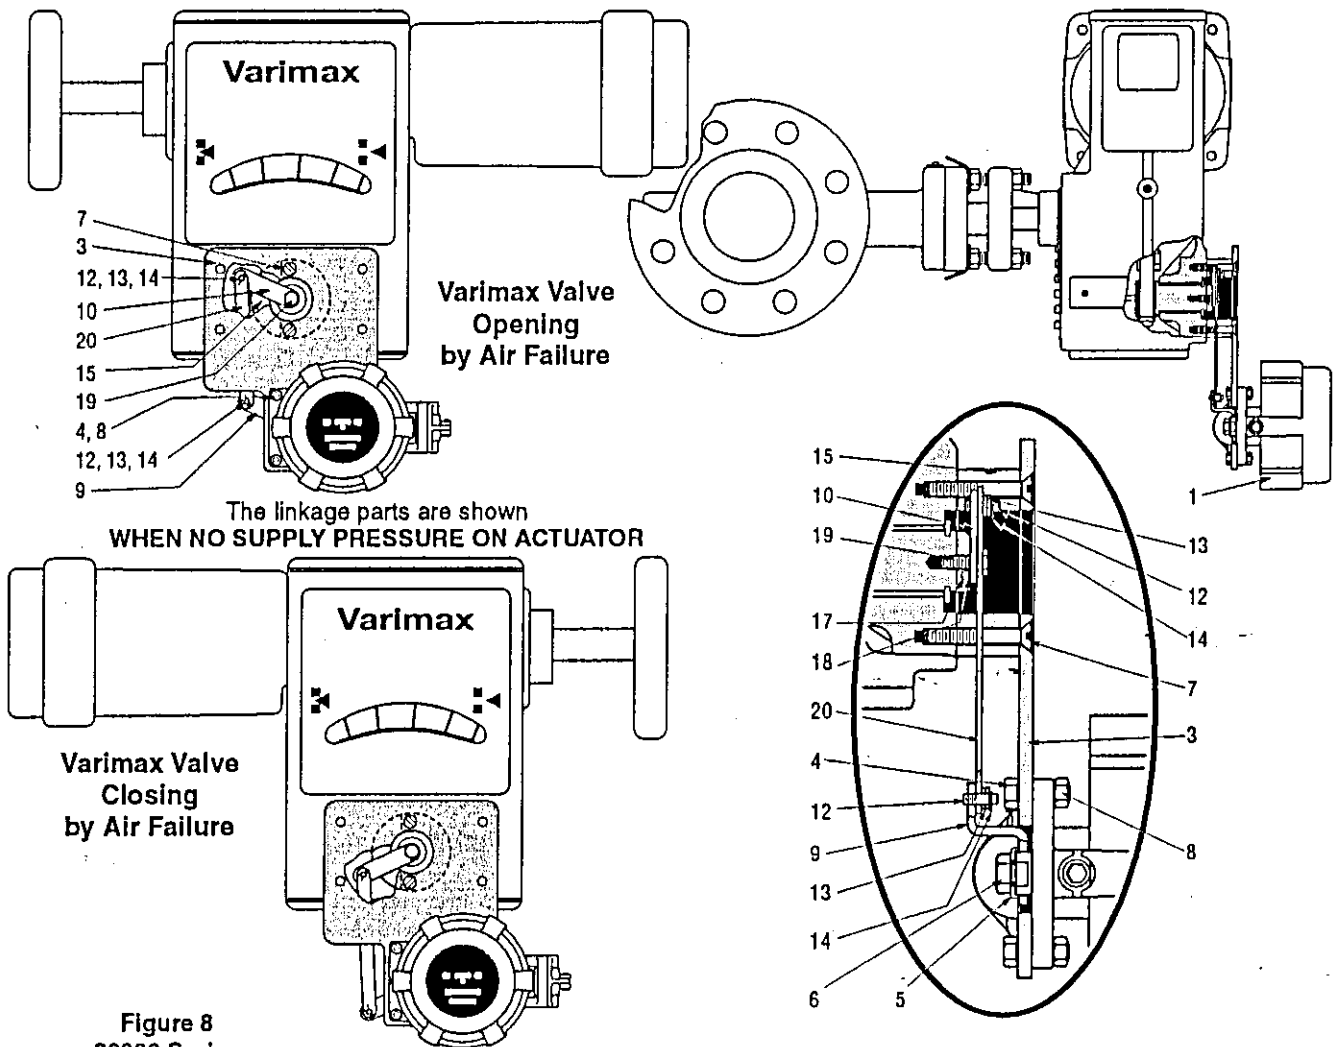

Figure 8
On 30000 Series Varimax Valves (Figure 8):
2. Screw the index-screw (17), with its lock washer (18), into one of the two threaded holes of the control lever (10).
Note: The head of the index-screw (17) will be engaged in the slot located on the valve shaft end to ensure the proper position of the control lever (10). The proper hole to be used configuration can be easily identified referring to the below Figure 8 and presenting the lever in the shown position.
3. By means of the hex. head screw (19), fit the control lever (10) on the valve shaft end in the proper position relating to the valve operating way.
4. Install the mounting bracket (3) by means of the spacer (15) and the two flat head screws (7).
5. Mount detector (1) on bracket (3) using the four cap screws (4) and the four hex. nuts (8).
6. Attach the back lever (9) to the detector shaft using lock washer (5) and hex. head screw (6).
7. Connect the back lever (9) to the control lever (10) by means of link (20), two driving pins (12), four washers (13) and two retaining clips (14).